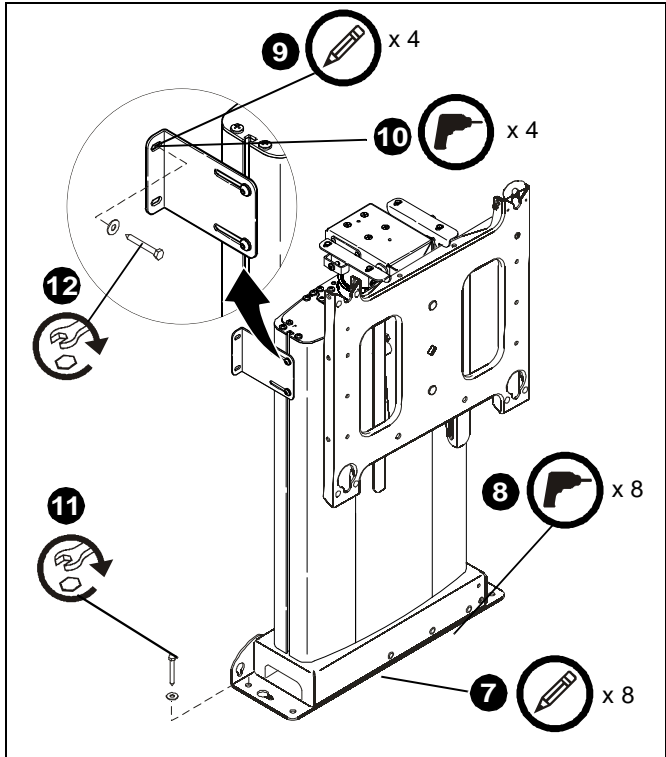

Figure 24
5. Loosen four screws securing side mounting brackets to mount and adjust side mounting brackets until properly positioned against vertical mounting surface. (See Figure 24)
6. Tighten four screws to hold position of side mounting brackets. (See Figure 24)
7. Mark eight base mounting hole locations. (See Figure 24)
11. Secure mount base to mounting surface using eight screws. (See Figure 24)
12. Secure mount to vertical mounting surface using four screws. (See Figure 24)